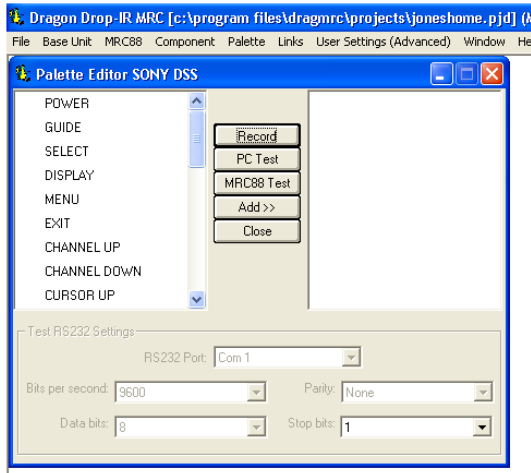

Figure 21
4. The Palette Editor will now be open to the "Brand" & "Component" selected. A list of FUNCTIONS for that type of component will appear as shown in **Figure 21**. Review the list of Functions on the left hand side and compare to the source remote. If your function is not displayed or not named appropriately see the section entitled 'Editing Function Names in the Palette Editor.